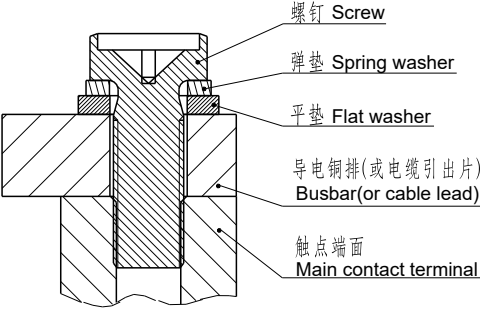

图1(Fig1)
- 当产品使用1个及多个导电铜排连接时，请确保导电铜排与触点端面紧密贴合（多个铜排需确保大电流的导电铜排最贴近触点端面，小电流的导电铜排其次），然后是平垫圈、弹簧垫圈、螺钉。不正确的连接顺序可能造成严重过热，参考下图1：
When the product is connected with one or more conductive copper bars, please ensure that the conductive busbars closely fit the contact terminal surface (The conductive copper bars with high current must be closet to the contact terminal surface if there are multiple copper bars and then conductive busbars with low current), followed by flat washers, spring washers and screws. Incorrect connection sequence perhaps give rise to severe overheating. Refer to Figure 1 as follows: